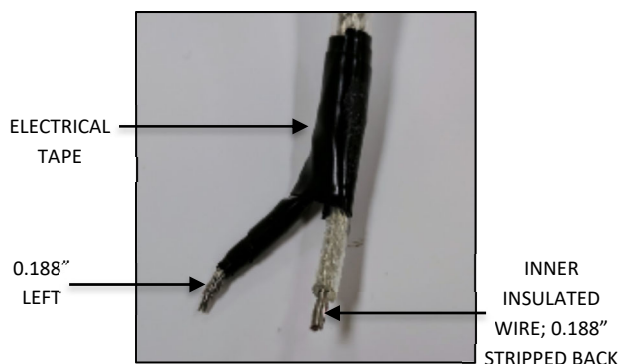
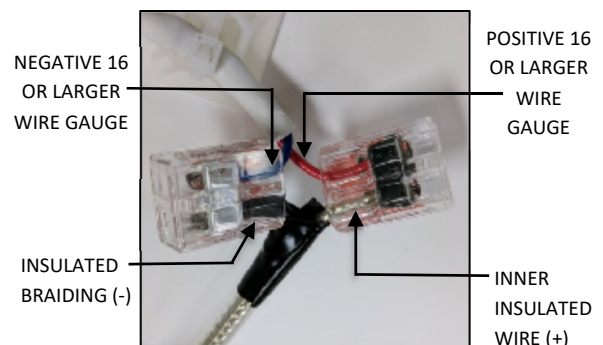

FIG. 18
FIG. 19
3. Using electrical tape, insulate the twisted strands leaving 0.188" exposed for connections. Strip off 0.188" of the inner insulation as you normally would for 18AWG stranded core wire as shown in FIG. 18 below. Connect the inner insulated wire (+) to the positive 16 gauge or larger wire ran in step 5 at the hanging bracket and Connect the outer braiding (-) to the negative 16 gauge or larger wire ran in step 5 at the hanging bracket FIG. 19 below.